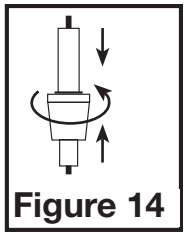

Figure 14
- Follow the steps in **SECTION 5 Wiring** to gain access to the fuse holder located inside the wire compartment. To replace the fuse, squeeze the top and bottom of the fuse holder together while twisting the larger piece in a direction away from the tabs (**Figure 14**). Replace fuse only with 0.5 Amp, 250VAC, 5 x 20mm, Fast Acting fuse. Reconnect the fuse holder by lining up the top and bottom section and squeeze together while twisting until they are locked in place. Carefully tuck back into the wire compartment and reinstall the wire compartment cover.